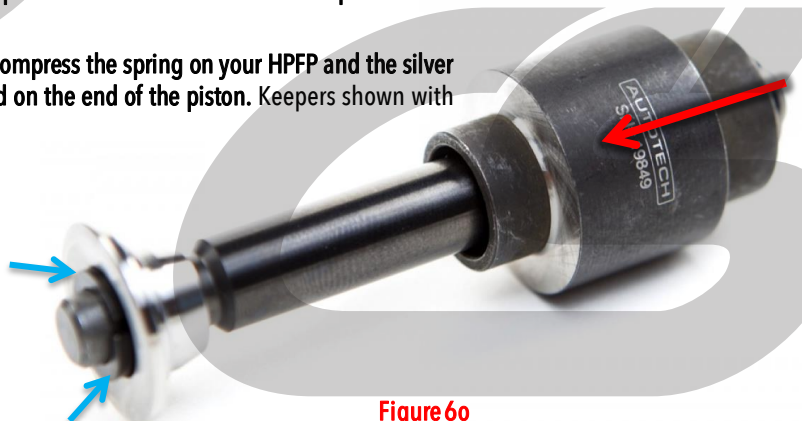

Figure 6o
- r) **Autotech (or similar) HPFP Internals** : Lubricate the AutoTech piston with clean engine oil then slide it into the seal screw in the direction shown with the **red arrow** in **Figure 6o**. Then replace the spring (not shown) onto the end of the piston.
- t) **Autotech (or similar) HPFP Internals** : Next, compress the spring on your HPFP and the silver retainer to allow the "keepers" to be installed on the end of the piston. Keepers shown with **blue arrows** in **Figure 6o**.
- u) **Autotech (or similar) HPFP Internals** : The piston sleeve can then be slid onto the end of the piston in the direction shown with the **red arrow** in **Figure 6o**. Ensure the large end of the piston sleeve faces the seal screw (**Figure 6o is incorrect**)